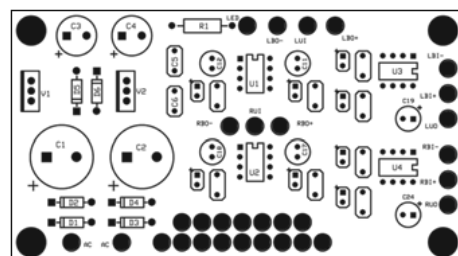

FIGURE 3: Components with pins and text.
- A component layout diagram with pins as shown in Fig. 3.